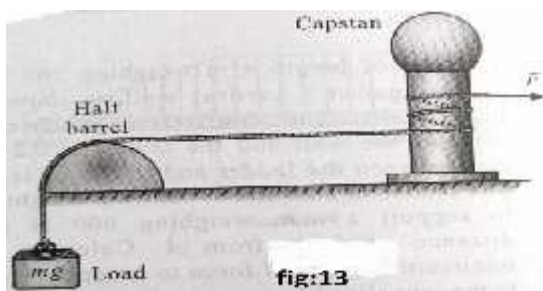

fig:13
13. A mass of 500 Kg is to be maintained in position by pulling a rope taken over a half barrel and wrapped twice around a capstan as shown in fig:13. If the coefficient of static friction is 0.2 for all contact surfaces, calculate the minimum force F required to maintain the load.